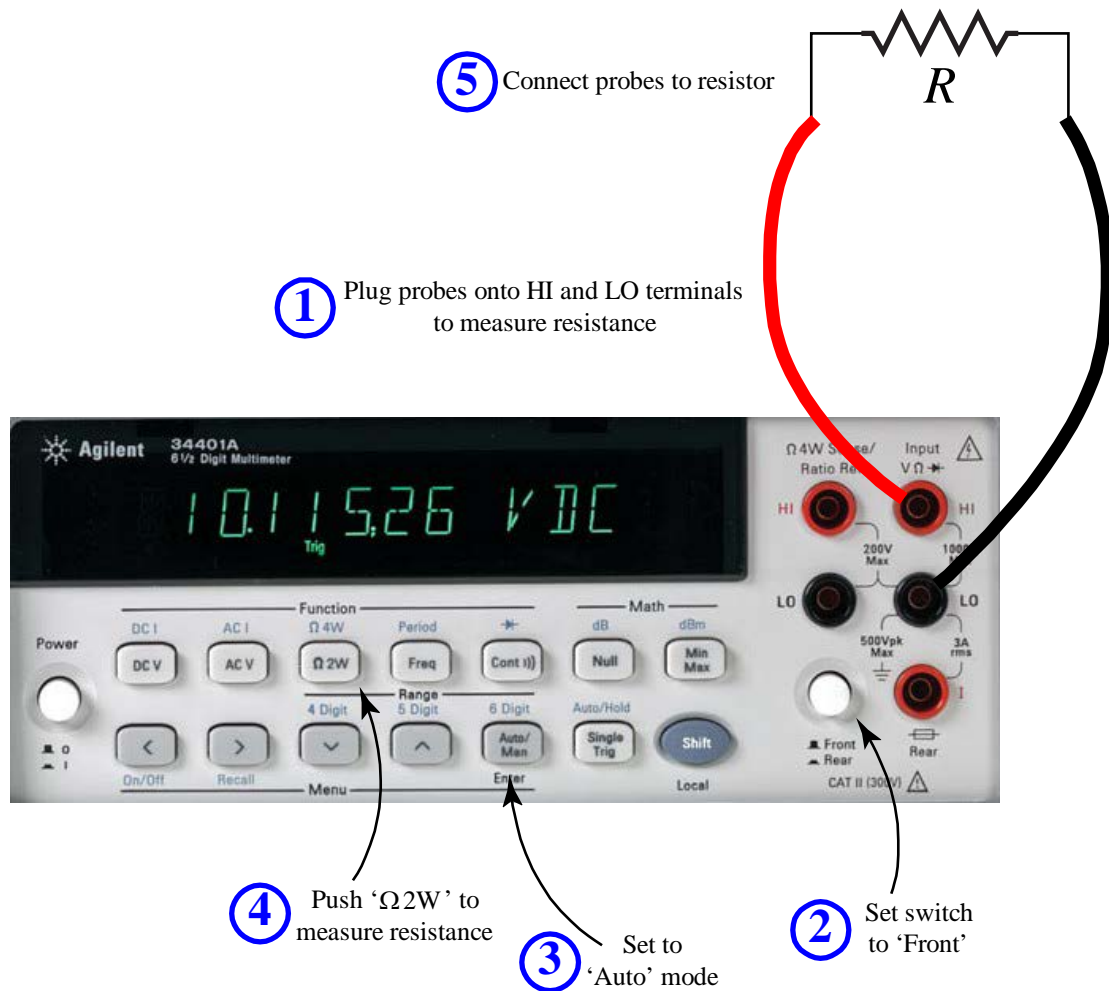

Figure 7: Using the DMM to measure resistance
The configuration of the DMM to measure resistance is shown in Figure 7.
- You must insert the ohmmeter leads across the two points in a circuit for which you want to measure the resistance, as shown in Figure 7.